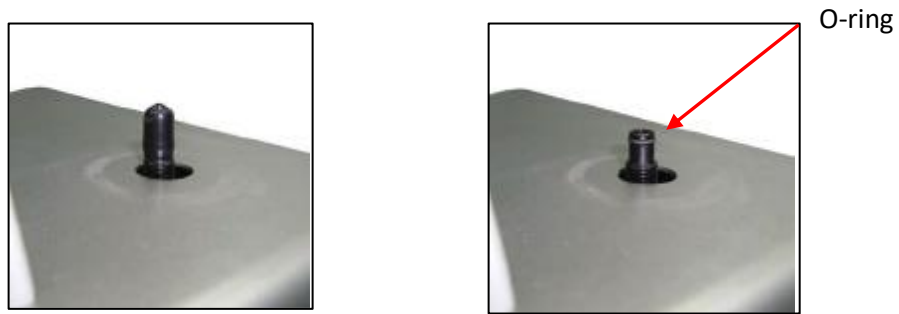

Figure 3-7 Sensor Fitting & O-ring
1. Remove the black cap from the sensor inlet fitting. Confirm that the O-ring on the fitting is intact. See Figure 3-7.